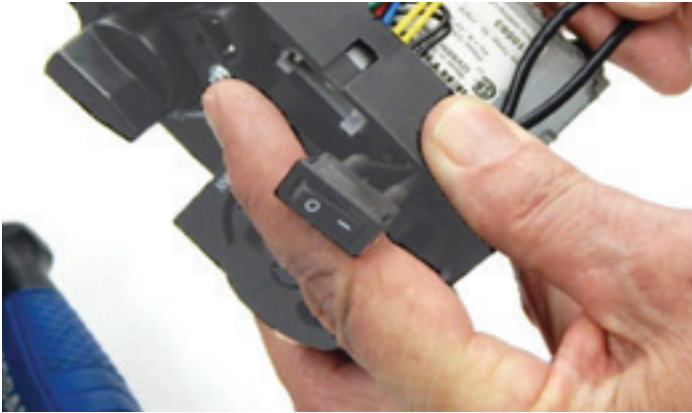

Figure 23
22. Insert the wires from the new rocker switch into the switch opening on the new valve. Orient the switch such that the "I" is at the bottom and snap it into the valve. **See Figure 23.**